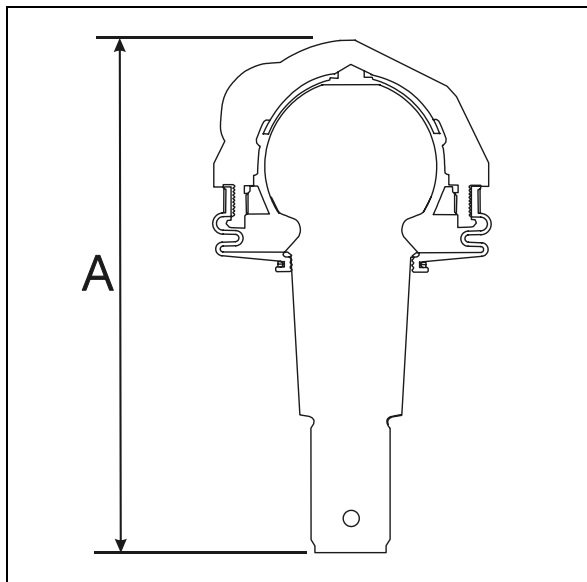

FIGURE 19: UPPER A-ARM CENTRAL BALL JOINT 16116
2. Using a caliper, measure dimension A on figure 19.